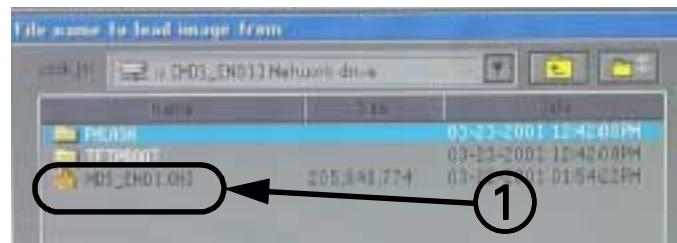
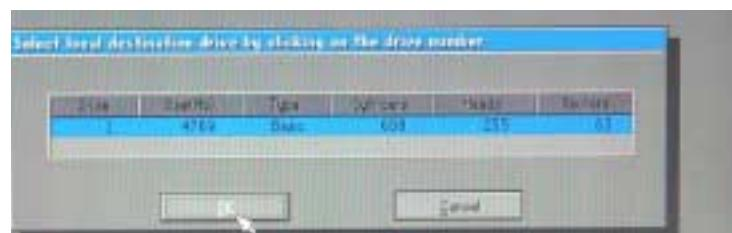

Figure 15-19 Image Folder (Image file)
Figure 15-20 Drive Number Window
5. Click on *xxxx_xxxx.GHO* (① in Figure 15-19) to open "Select local destination drive by clicking on the drive number" window (see Figure 15-20).
6. Click on **OK** button to open "Destination Drive Details" window (see Figure 15-20).